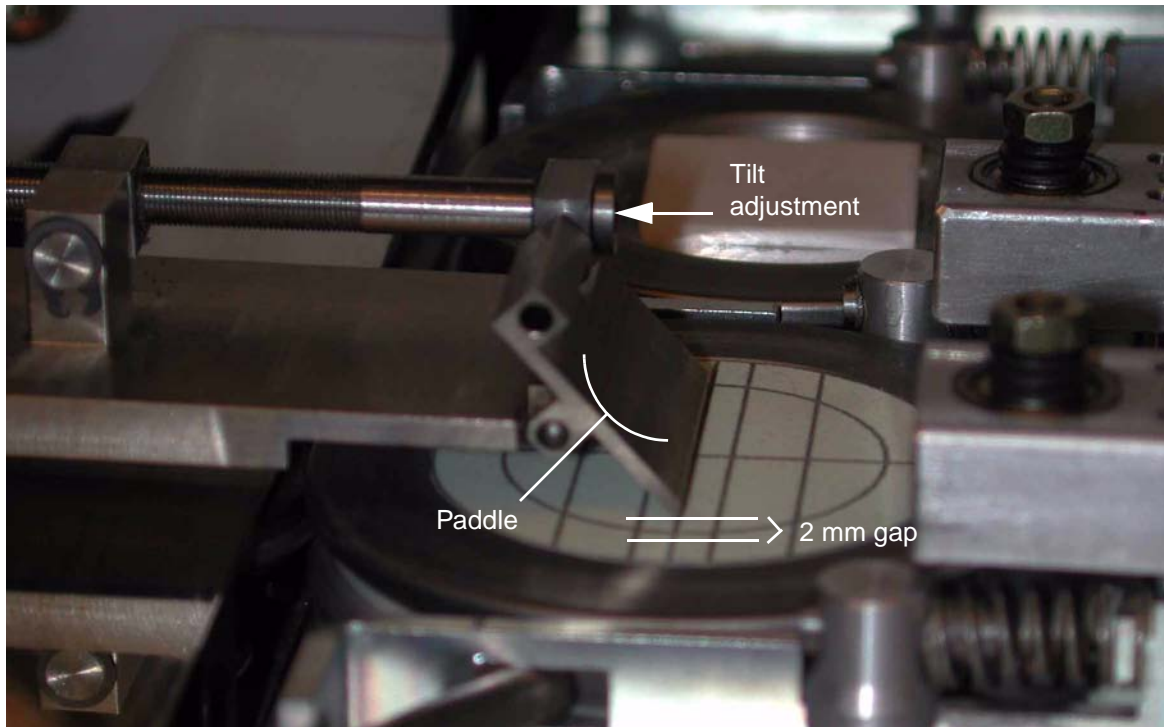

Figure 4.29 - Alignment of the paddle using the fluorescent screen
4. Align the translation of the screen so the paddle will be exactly centered to the sample (see Figure 4.29).